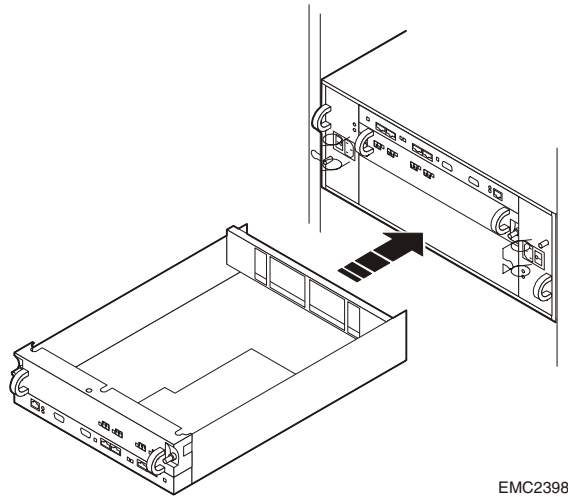

Figure 3-12 Installing a Storage Processor
3. Align the storage processor module with the guides on the side of the enclosure. Gently slide the SP into the enclosure, as shown in Figure 3-12. Be sure the module is completely seated in the CX700 midplane.